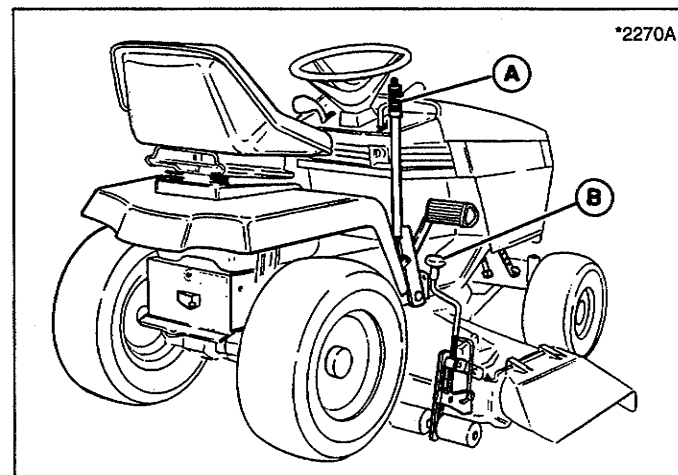

Figure 10. Mower Operation - Manual Lift
2. Place mower in the lowest cutting position using the mower height adjuster (B, figure 10). Place the mower lift lever (M, figure 2 or A, figure 10)) in the lowest position, also. Slide mower deck under right side of tractor so that mower hitch is aligned with front tractor hitch.
- Place mower in the lowest cutting position using the mower height adjuster (B, figure 10).
- Place the mower lift lever (A, figure 10 or M, figure 13) in the lowest position.
- When traveling to or from the work site, fully raise the mower using the mower lift lever (A, figure 10 or M, figure 13). At the work site, lower mower using the lift lever.
- Use the mower height adjuster (B, figure 10) to set the proper mowing height. See Mowing Patterns & Tips section for cutting height recommendations.
2. Place the mower in the transport position (up) using the mower lift lever (A, figure 10 or M, figure 13).